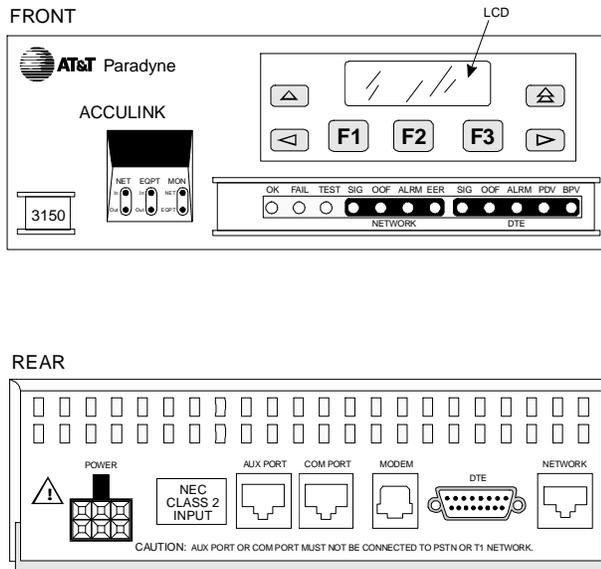

Figure 1-11. Front and Back Panel of the ACCULINK 3150 Channel Service Unit
1. Connect the 15-pin slide latch adapter cable to the DTE port of the CSU rear panel (Figure 1-11).
5. Connect the appropriate end of the T1 line interface cable to the NETWORK port on the rear panel of the CSU (Figure 1-11).